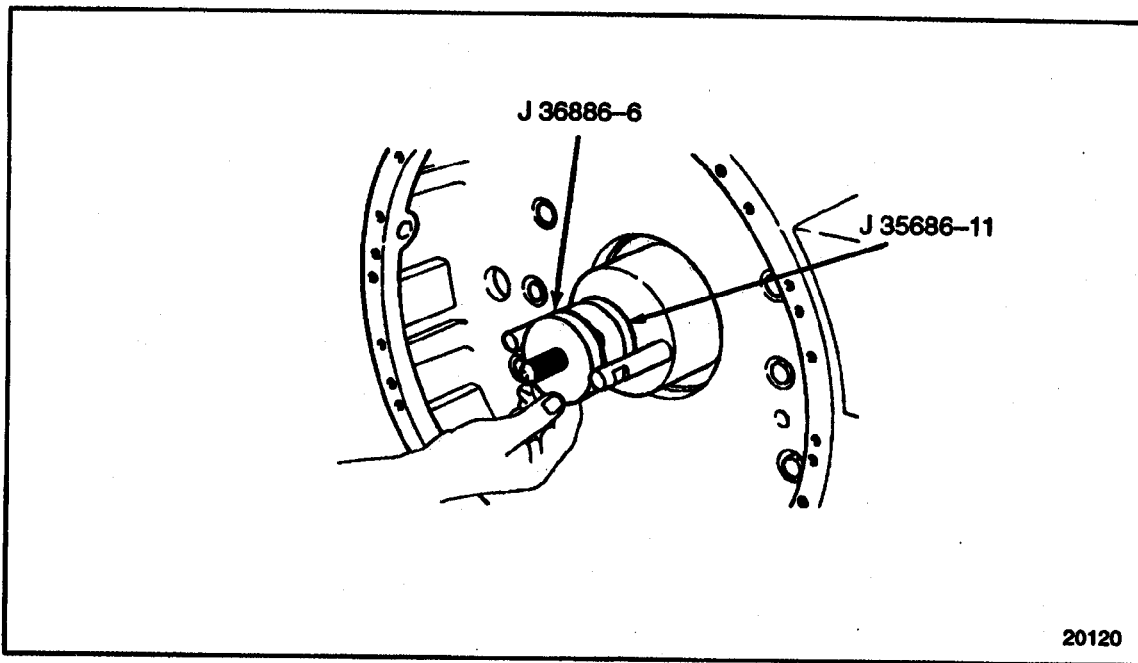

Figure 1-137 Rear Oil Seal Installation
2. For rear crankshaft oil seal installations only, install spacer and J 35686-11, to the center screw of the base. See Figure 1-137 and see Figure 1-135.